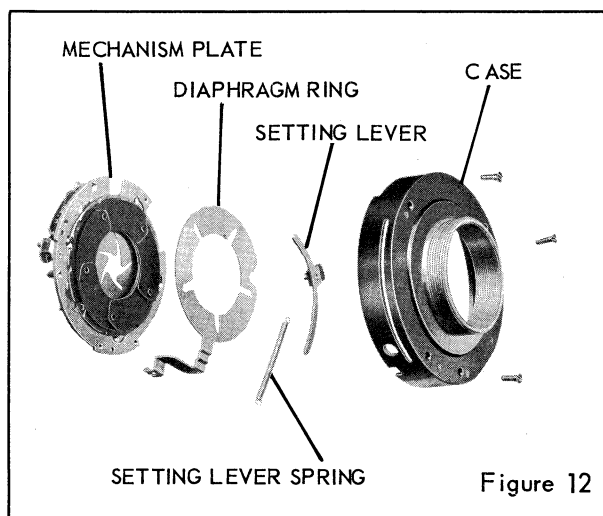
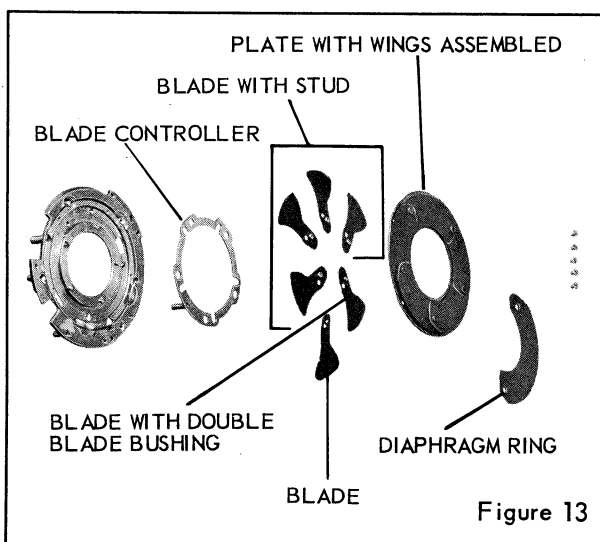
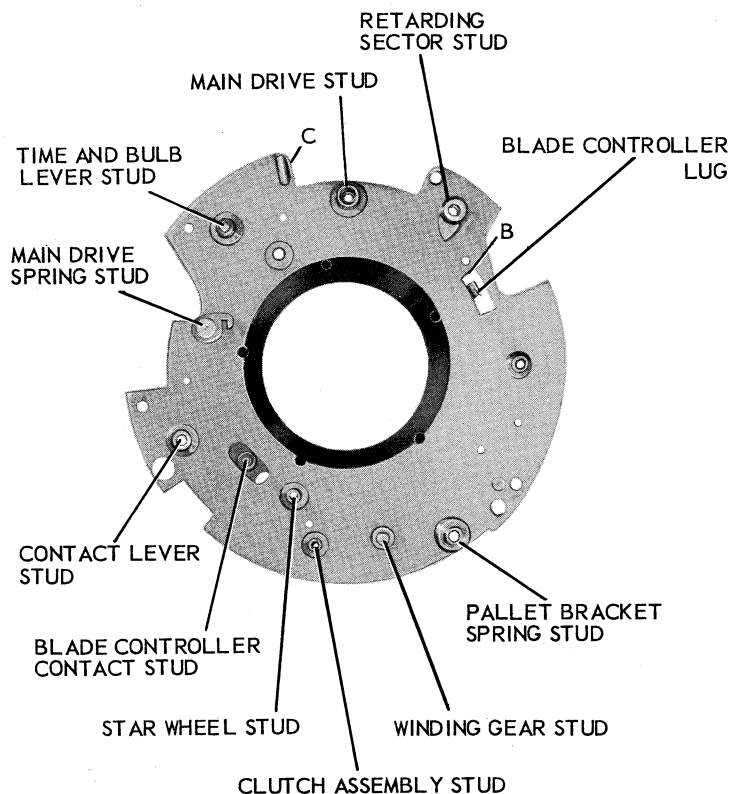
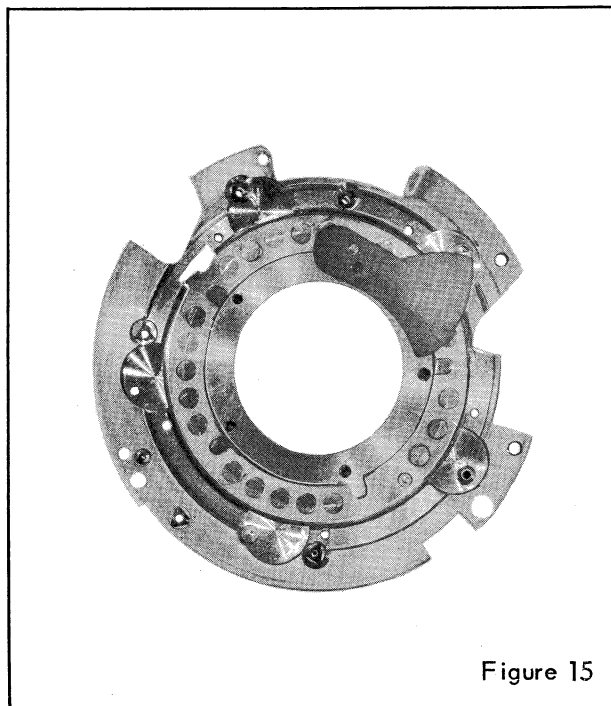

Figure 12
Figure 13
Figure 14
Figure 15
2. Contact lever complete on the CONTACT LEVER STUD, figure 14. The ends of the contact lever spring should face in, toward the shutter blades. Turn the long end of the spring in a clockwise direction to place it in tension, and rest it in the groove in the case. Form the short end of the spring around the vertical part of the contact lever tail.
10. Release the shutter and at the same time retard its opening action by placing one finger against the shutter SETTING LEVER, figure 12. Observe whether the BLADE CONTROLLER CONTACT STUD, figure 14, makes contact with the contact spring when the shutter blade opening approximates the $f/16$ diaphragm opening. If the stud does not touch the spring at this diaphragm opening, bend the end of the spring toward or away from the stud.
7. Case insulator in the opening in the case near the RETARDING SECTOR STUD, figure 14. The collar end of the insulator should face out.
14. Cock the shutter. Release the shutter and at the same time retard its opening action by placing one finger against the shutter SETTING LEVER, figure 12. Observe whether the BLADE CONTROLLER CONTACT STUD, figure 14, makes contact with the contact spring when the shutter blade opening approximates the f/16 diaphragm opening, bend the end of the spring toward or away from the stud.
12. MECHANISM PLATE, figure 12.
13. Diaphragm retainer PLATE WITH WINGS ASSEMBLED, figure 13.
3. BLADE WITH DOUBLE BLADE BUSHING and stud, figure 13, with the hole in the blade over the stud near the MAIN DRIVE STUD, figure 14, on the mechanism plate. Refer to figure 15 for positioning of the shutter blade.
4. Proceeding counterclockwise, replace four BLADES WITH STUD, figure 13, allowing the wide end of each blade to overlap the narrow end of the preceding blade.
8. The shutter CASE, figure 12, DIAPHRAGM RING and the SETTING LEVER with stop stud should be thoroughly cleaned. Apply a thin film of grease (Texaco Unitemp-RCX169 Grease) in the recess in the case occupied by the setting lever; then wipe this area lightly with a clean cloth.
| Shutter blades buckle | <p>NOTE: The following conditions may contribute to blade buckle, singly or in combination.</p> <p>Loose studs on shutter blades or MECHANISM PLATE, figure 23.</p> <p>BLADE CONTROLLER with contact stud, figure 13, not flat.</p> <p>Shutter blades not flat.</p> <p>Mechanism plate not flat.</p> <p>Blade controller too loose or too tight on the central hub of the mechanism plate.</p> <p>Too much play between the mechanism plate and the diaphragm retainer PLATE WITH WINGS ASSEMBLED, figure 23, due to retainer plate being bowed.</p> <p>Burr or roughness on diaphragm retainer plate with wings assembled.</p> <p>Blades opening too far.</p> <p>Blades closing too far.</p> <p>No clearance between the blade controller latch and the BLADE CONTROLLER LUG, figure 24, when the shutter is in the tripped position.</p> <p>Shutter blades too loose.</p> | <p>Replace the shutter blades. Restake the studs on the mechanism plate carefully to avoid swelling the tops of the studs.</p> <p>Straighten or replace the blade controller.</p> <p>Replace the blades.</p> <p>Replace the mechanism plate.</p> <p>Replace the blade controller. If still too loose or too tight, replace the mechanism plate.</p> <p>Replace the diaphragm retainer plate with wings assembled.</p> <p>Replace the plate.</p> <p>File and burnish the blade controller LATCH at point "A." (See figure 7.)</p> <p>Swedge the mechanism plate at point "B." (See figure 24.)</p> <p>Swedge the mechanism plate at point "C," figure 24, such that this point acts as a stop for the SETTING LEVER with stop stud, figure 23.</p> <p>Replace the blades.</p> |